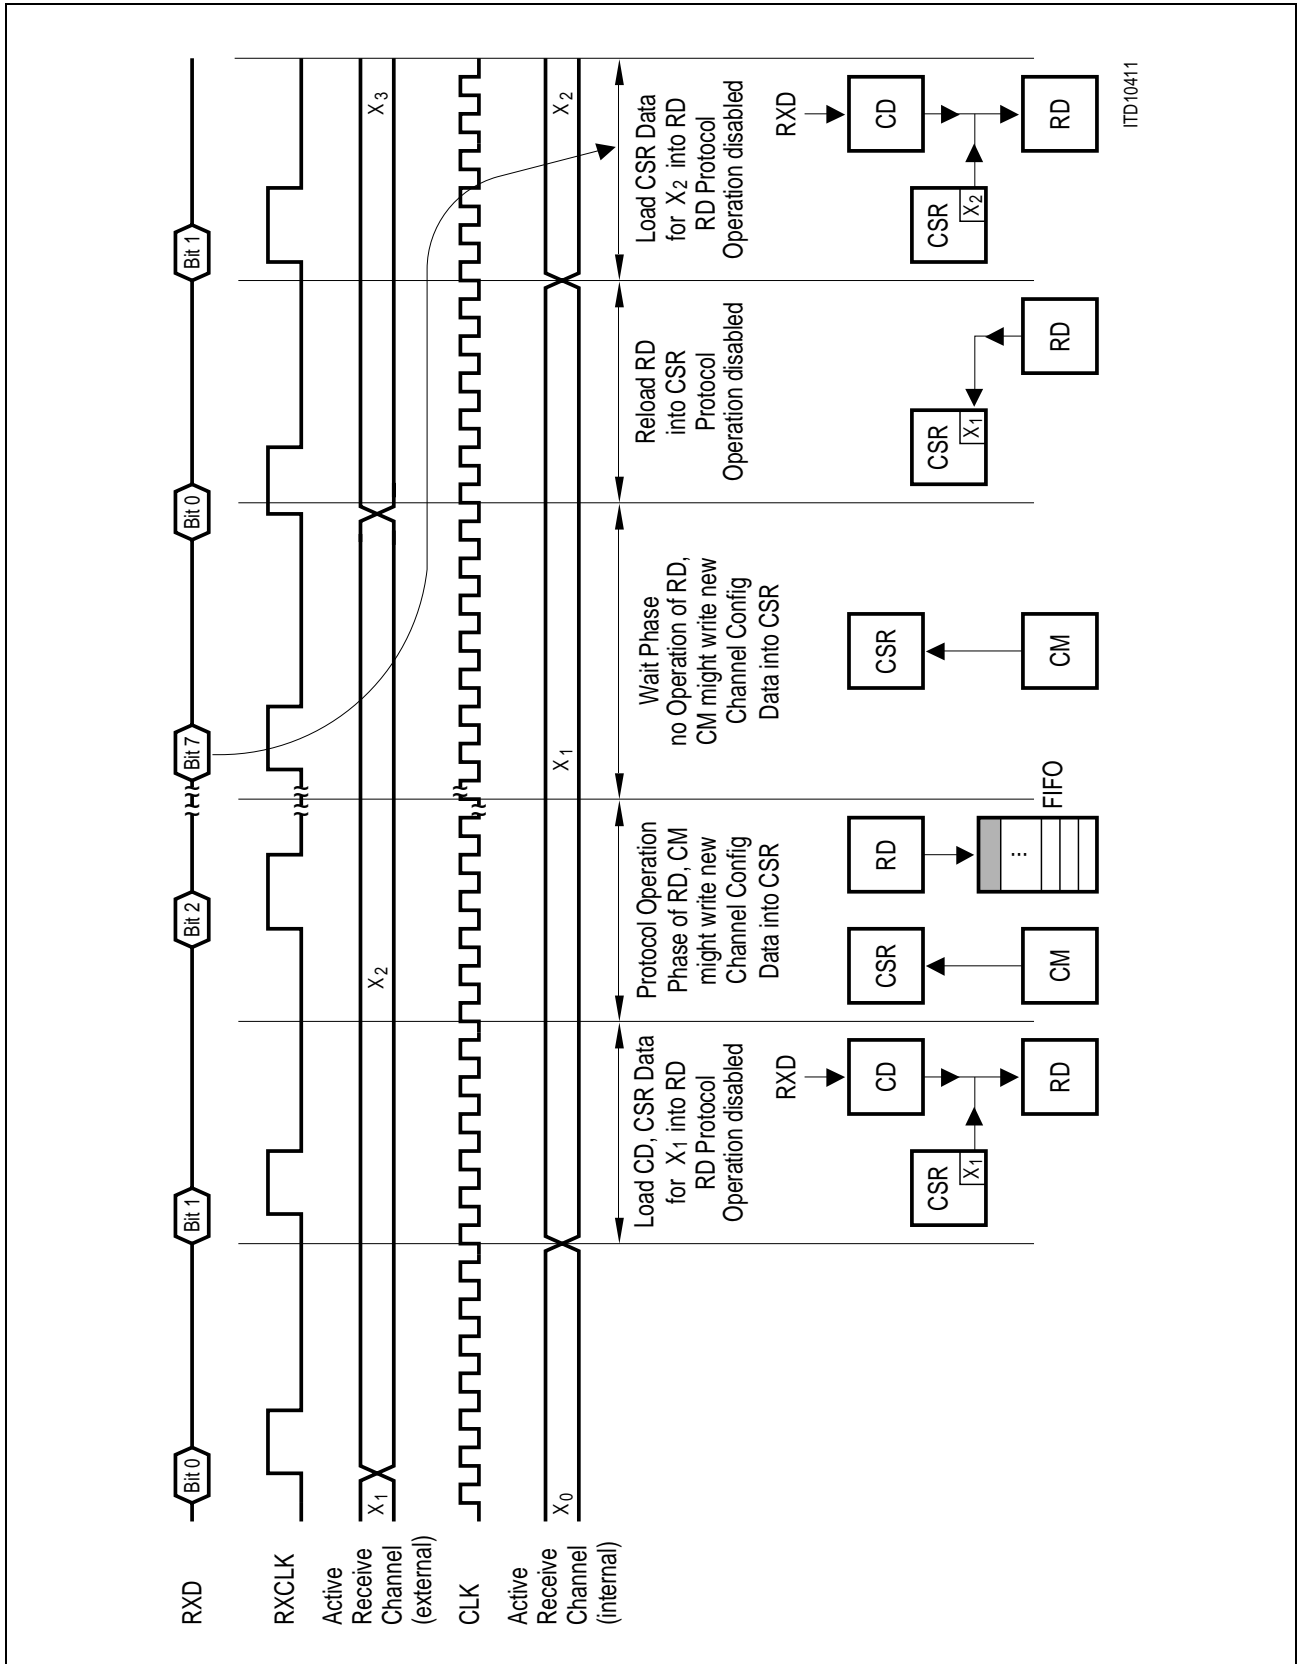
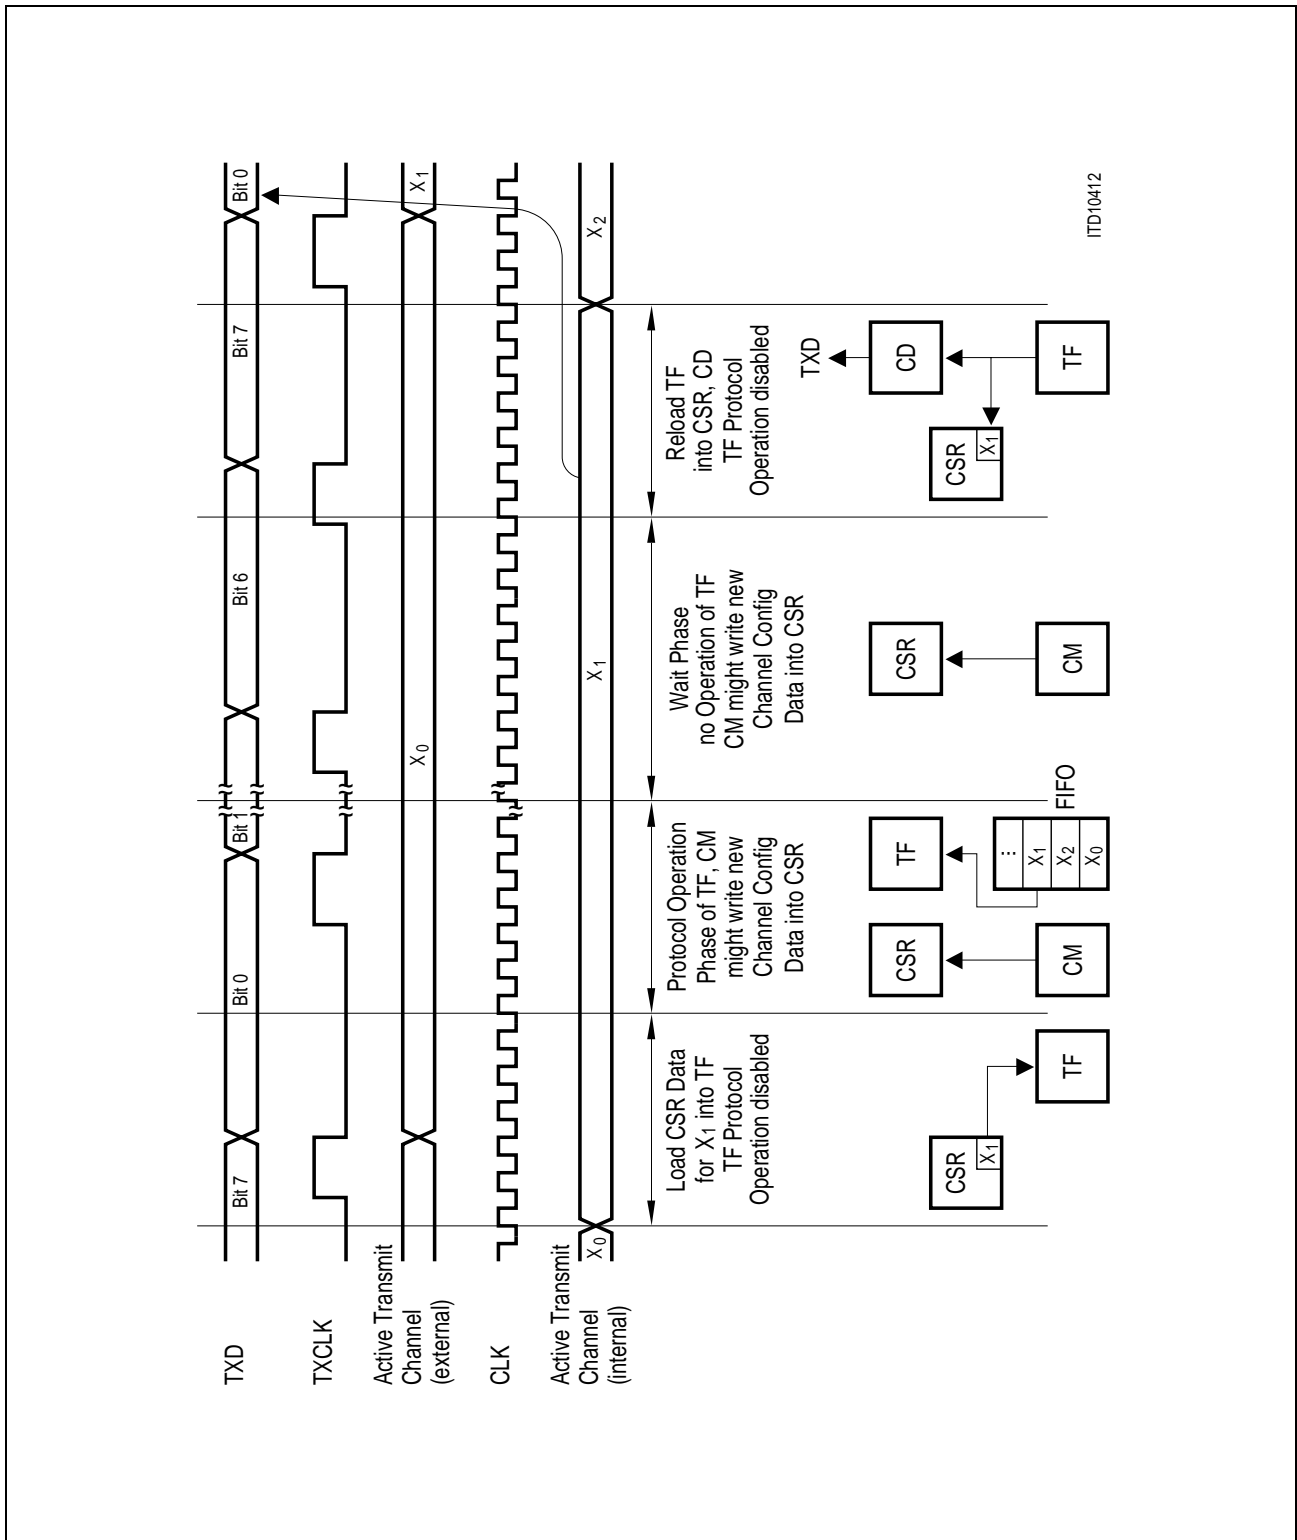

Figure 14
Figure 15
The MUNICH32X processes receive and transmit data independently for each time slot and transmission direction respectively (blocks TF = Transmit Formatter, RD = Receive Deformatter). The frame counters are reset by the rising edges of the RSP or TSP line. The processing units TF and RD work with a multiplex management, i.e. only one protocol handler exists, which is used by all channels in a time sharing manner (see **Figure 14** and **Figure 15**). The actual configuration, e.g. transmission mode, channel assignment, fill/mask code or state of the protocol handlers is retrieved from the Configuration and State RAM (CSR) at the beginning of the time slot and reloaded to the CSR at the end. In receive direction, 32 unpacked data bits are first accumulated and then stored into an on-chip receive buffer (RB) for transfer to the shared memory. As soon as the RB receives 32 bits for a channel it requests access to the parallel microprocessor bus. The on-chip transmit buffer (TB) is always kept full of data ready for transmission. The TB will request more data when 32 bits become available in the ITBS (refer to channel specification). These buffers allows a flexible access to the shared memory in order to prevent data underflow (Tx direction) and data overflow (Rx direction).